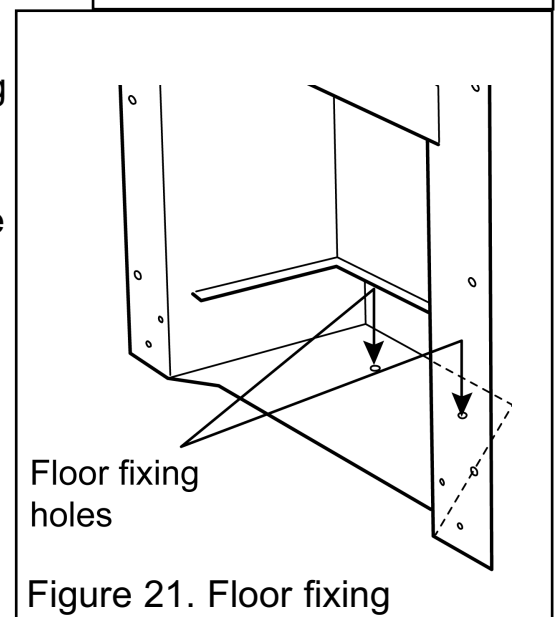

Figure 21. Floor fixing
8. Drill a hole into the fireplace floor through each of the two holes in the base of the convection box using a using a suitably sized masonry drill bit for the wall plugs supplied (See figure 21).